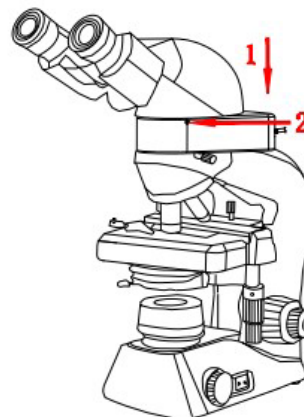

Figure 3
3. Assemble eyepiece part of the microscope as shown in figure 3